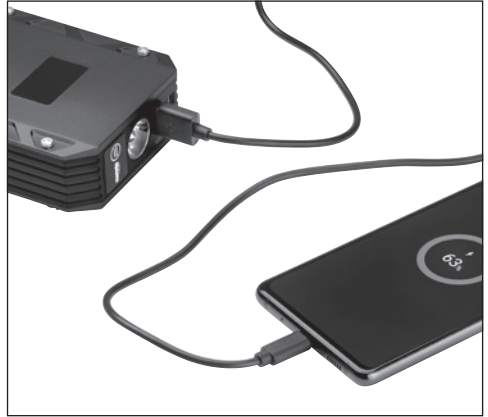

Fig. 1
1. To begin charging, connect one end of the USB-C cable to the USB-C input port (8) and the other to a suitable power supply.
2. Press the '**ON/OFF**' button (6) to turn on.
6.2 Using as a Power Bank - Fig. 1.